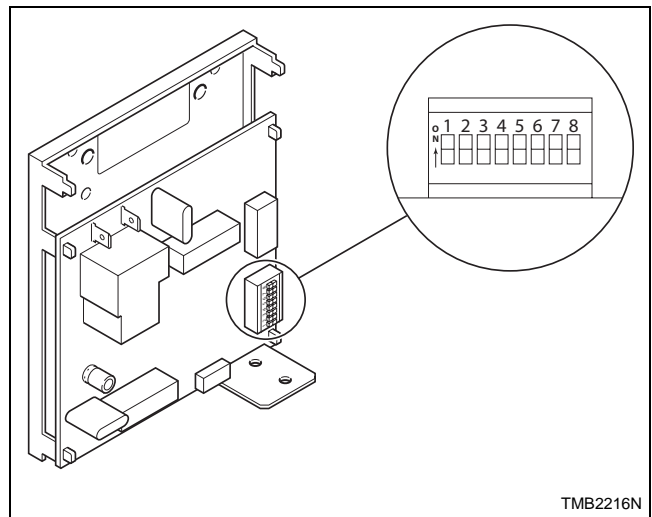

Figure 6
2. Write down machine control dip switch settings, then set them all to the off position. Refer to Figure 6.